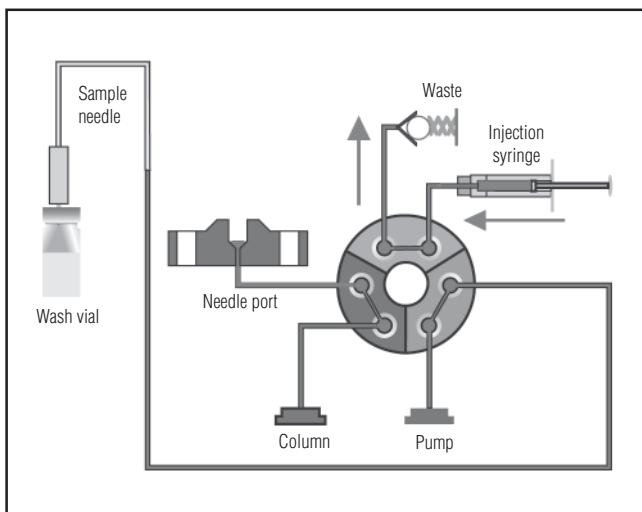

Figure 2. Injection valve in the “Inject” position with the needle still in the vial.
The injection valve switches back to the “Inject” position, while the needle remains in the wash vial. The syringe plunger pushes the liquid contained in the syringe to waste (Figure 2).
- **The pump flow must be off.** If not, the pump would deliver eluent into the wash vial as soon as the injection valve switches from “Load” to “Inject” (see Figure 2).